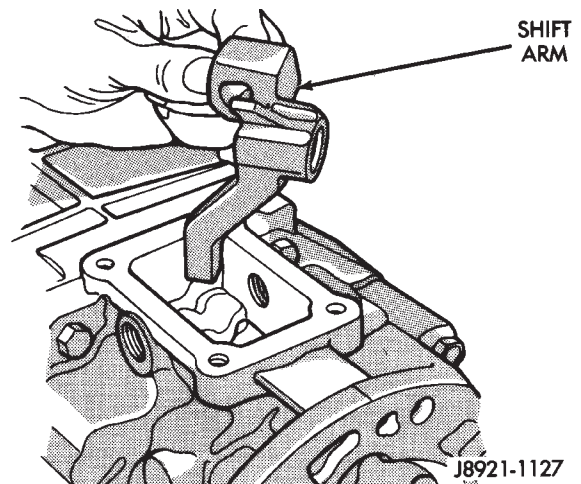

Fig. 42 Position Shift Arm in Transmission Case
(10) Position shift arm in shifter tower opening of adapter[extension] housing (Fig. 42). Be sure that the shifter arm is engaged into the shift rails.